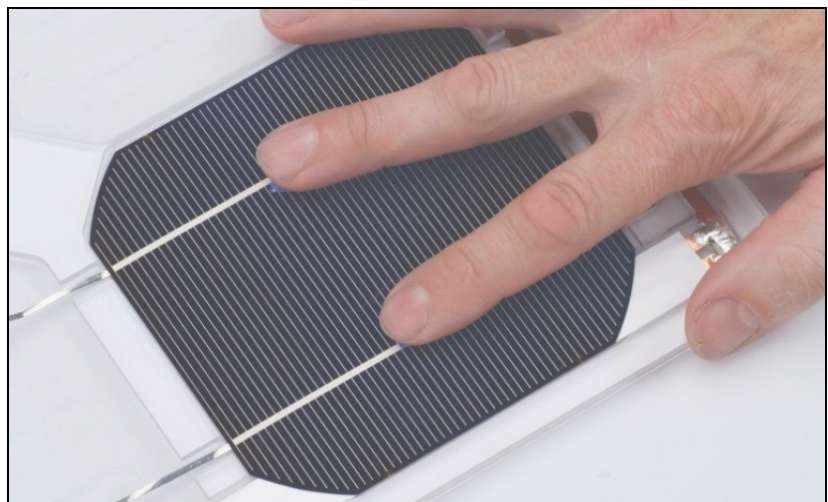

Figure 24
- ✓ Place one of the cells with the 10" long tabbing wires (prepared in Step 7) with the tabs pointing towards the left (away from the two Base Panel thru holes), in the cavity and gently push down with two fingers directly over the glue droplets, and hold for about 30 seconds or until the glue cures. See Figure 24.